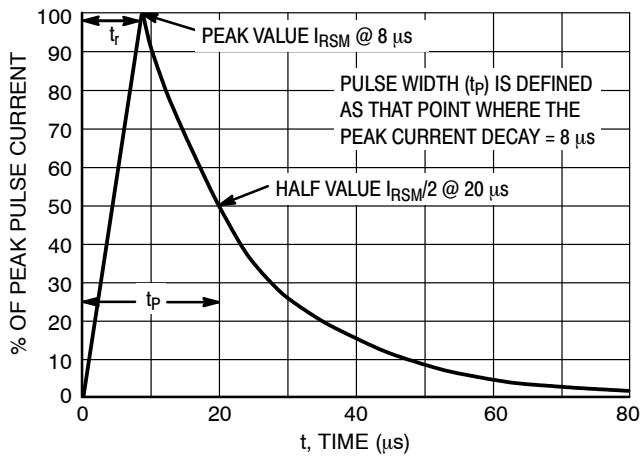

Figure 1. IEC61000-4-5 8/20  $\mu\text{s}$  Pulse Waveform
1. Non-repetitive current pulse per Figure 1 (Pin 5 to Pin 2)
( $t_p = 8/20$   $\mu\text{s}$  per Figure 1)